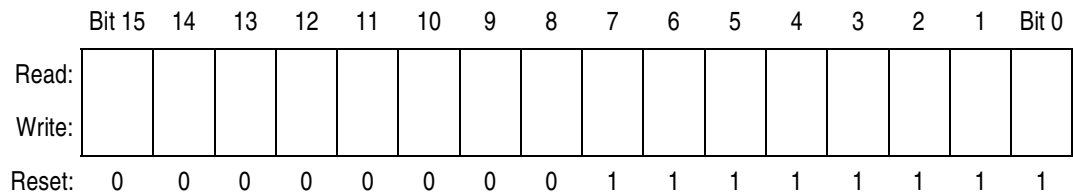

Figure 2-4. Stack Pointer (SP)
The stack pointer (SP) shown in Figure 2-4 is a 16-bit register that contains the address of the next location on the stack. During a reset, the stack pointer is preset to \$00FF to provide compatibility with the M6805 Family.